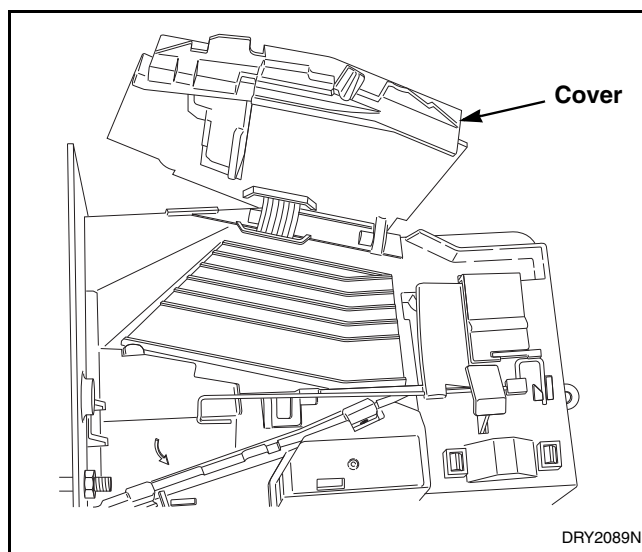

Figure 26
- Open cover for coin drop. Refer to Figure 26.